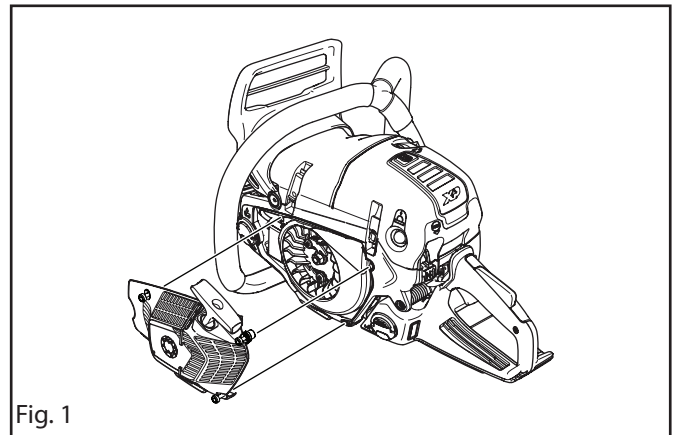

Fig. 1
1. Loosen the four screws holding the starter to the crankcase. Lift the starter off the chainsaw. See figure 1.